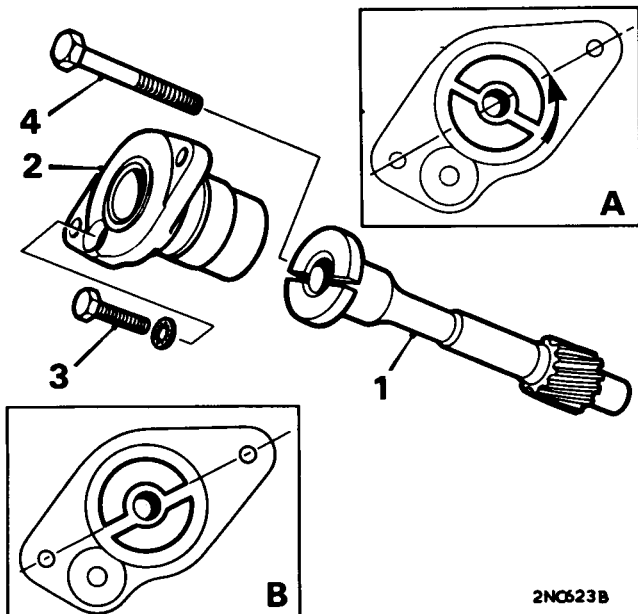

Fig. A.8
4. Hold the spindle so that the drive slot is in the position shown (Fig. A.8) with the large offset uppermost, and enter the gear. As the gear engages the camshaft the spindle will turn anti-clockwise.